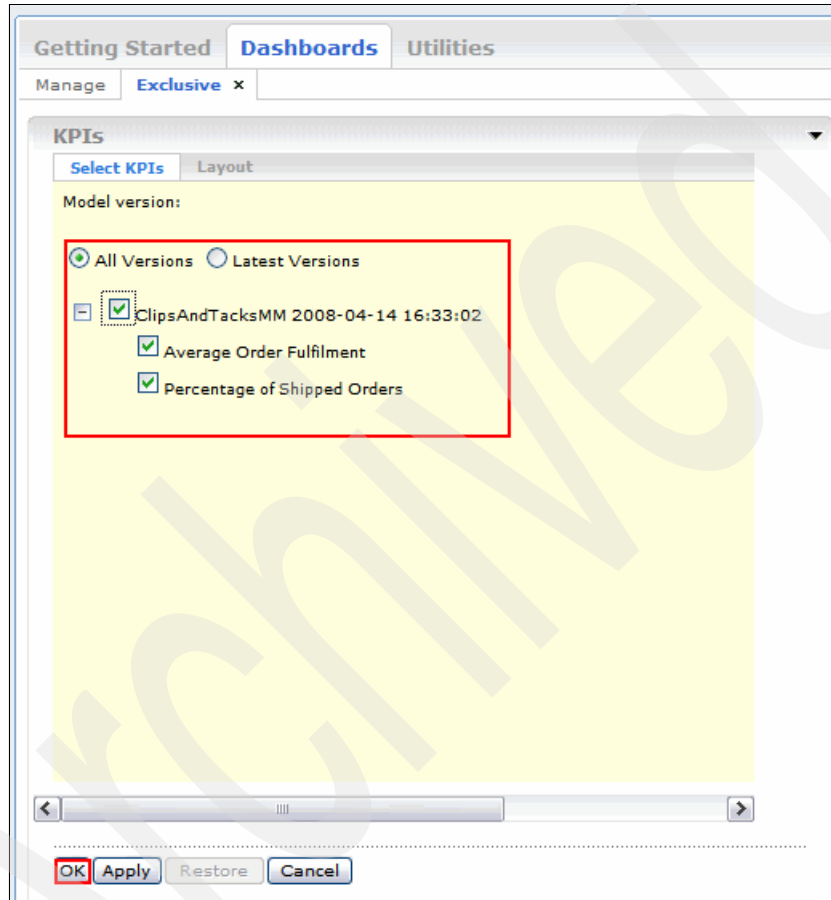

Figure 3-68 Select KPIs
2. From the **Select KPIs** page (Figure 3-68):